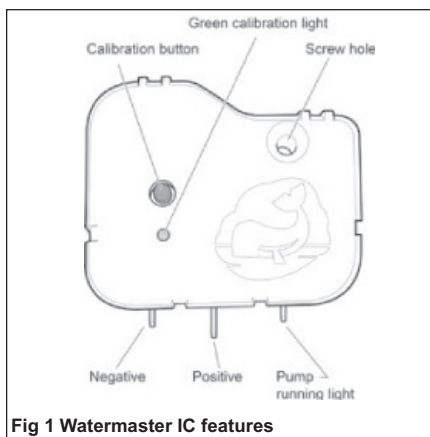
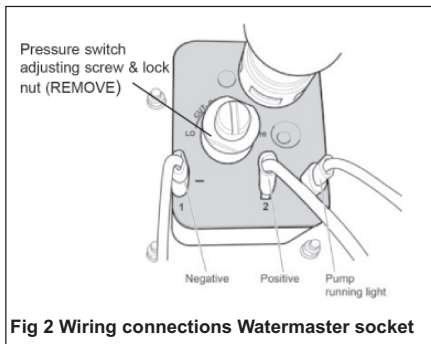

Fig 1 Watermaster IC features
Fig 2 Wiring connections Watermaster socket
- Step 2 - Unplug the spade connections on the water inlet socket - ensuring that you note the order of wires for reconnection with the Watermaster IC (See Fig 1 and Fig 2).
Step 3 - Unscrew and remove the pressure switch adjusting screw and locking nut (see Fig 2)